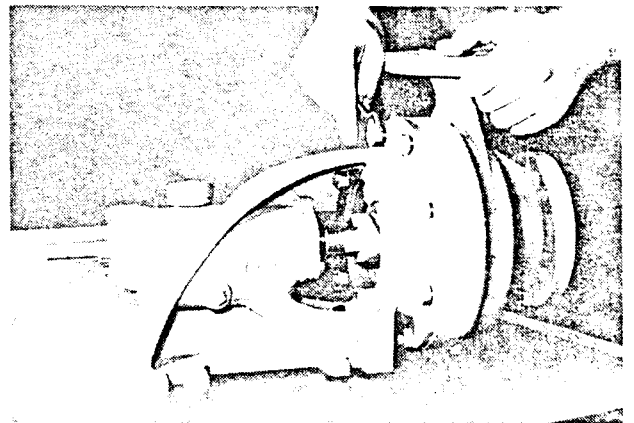

Fig. 10 Undoing the bolts fastening the volute casing to the discharge cover
Undo the bolts fastening the volute casing (101) to the discharge cover (103a) – see fig. 10 – and pull off the volute casing.